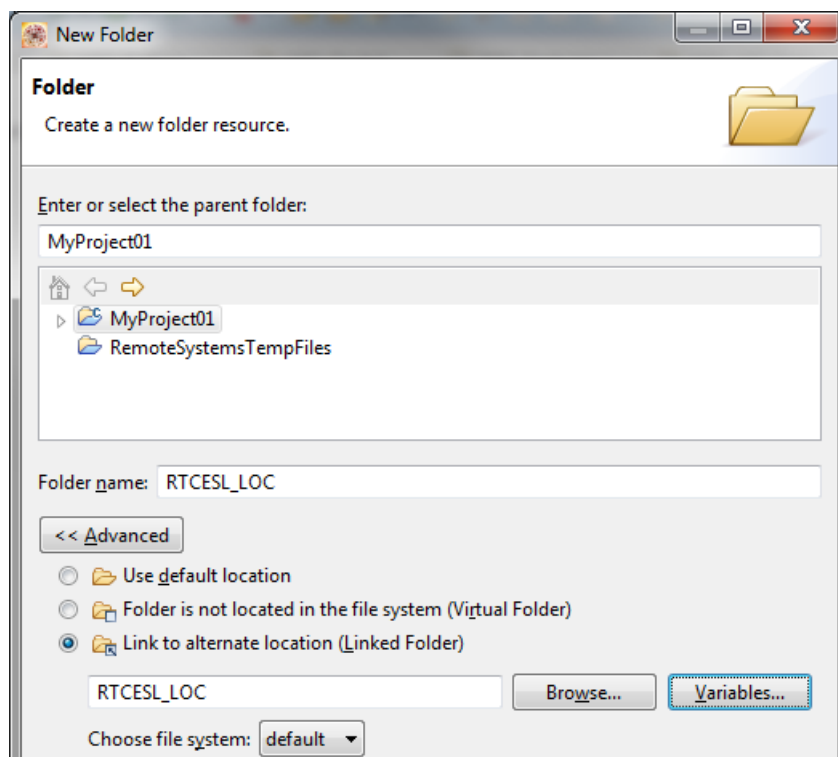

Figure 1-19. Folder link
4. Click Variables..., select the RTCESL_LOC variable in the dialog, click OK, and/or type the variable name into the box. See Figure 1-19.